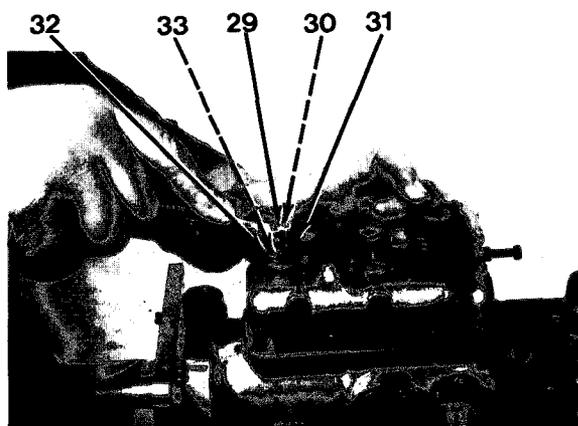
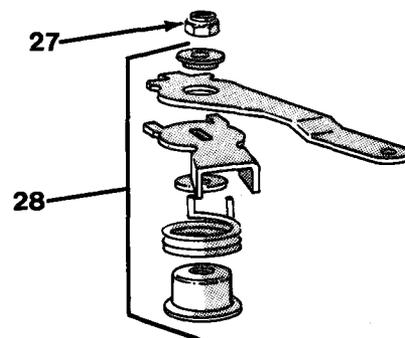

Figure 7-20
Figure 7-19
11. Install guide (33), spring (32) and shutdown lever (31, Figure 7-20).
12. Position return spring (32) with one end contacting boss on governor cover. Hook free end around shutoff lever. Rotate lever clockwise until it engages flats on shutoff shaft.
13. Install washer (30) and lock nut (29). Torque locknut (29) to 30 lb-in. (3.4 N•m).
14. Install lever kit (28) and lock nut (27, Figure 7-19). Stop arm in lever kit (28) must slide over flats of shaft. Torque locknut (27) to 30 lb-in. (3.4 N•m).